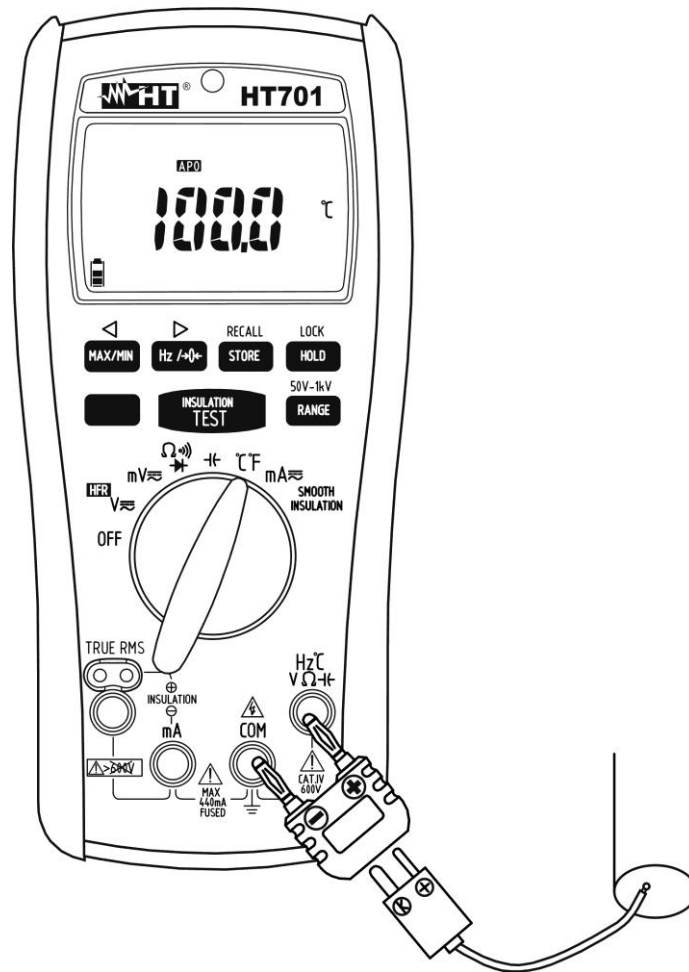

Fig. 9: Use of the instrument for Temperature measurement
3. Insert the provided adapter into the input terminals **Hz/°C/V/Ω/Hz** and **COM**, respecting the red and black colours found on it (see Fig. 9)